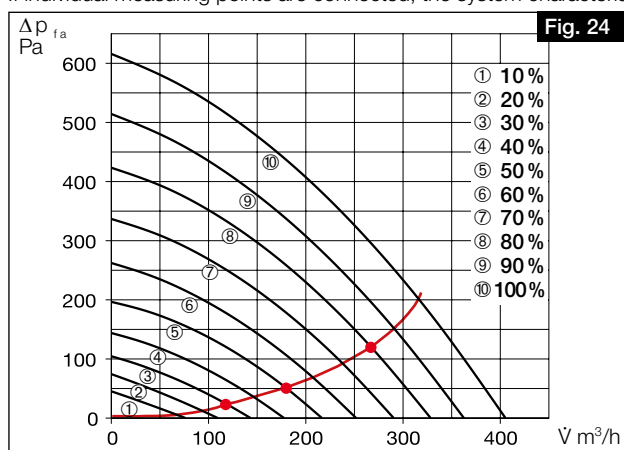

Fig. 24
- If individual measuring points are connected, the system characteristic curve is for supply or extract air (cf. Fig. 24).